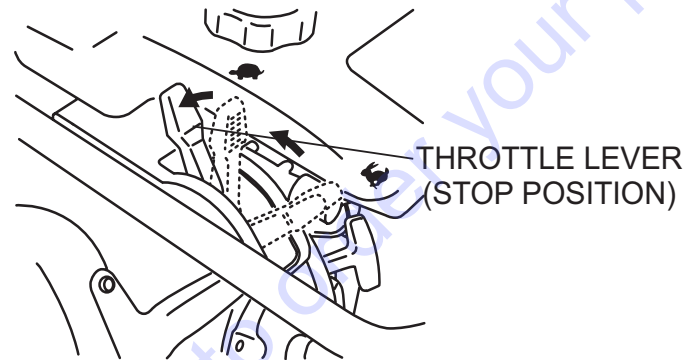

Figure 11. Throttle Lever (Stop Position)
1. Move throttle lever quickly from the **START** to **IDLE** position (Figure 10) and run the engine for three minutes at low speed. After the engine **cools**, move the throttle lever to the **STOP** position (Figure 11). The engine will stop and the fuel cock is automatically closed.